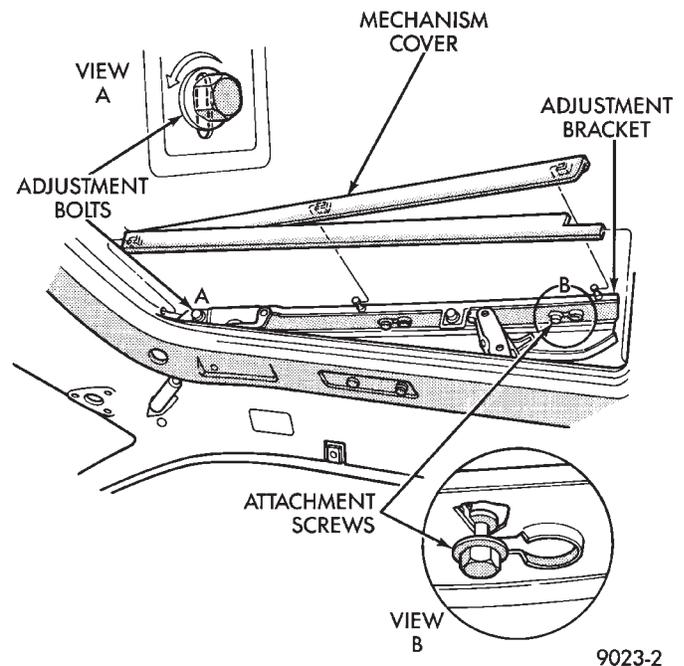

Fig. 1 Glass Adjustment
GLASS VERTICAL ADJUSTMENT (FIG. 1)
(1) Remove wind deflector mechanism covers (Fig. 1).
(2) Position glass to vent position.
(3) Position sunshade full rearward.
(4) Loosen nuts holding glass panel to side adjustment brackets.
(5) Slide glass panel rearward 12 mm (0.5 in.) and separate glass from sunroof unit.